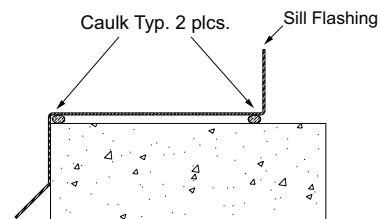

Fig. 1.1 Sill Flashing
3. Apply caulk to the sill of the opening and firmly set the sill flashing in the caulk. See fig. 1.1.